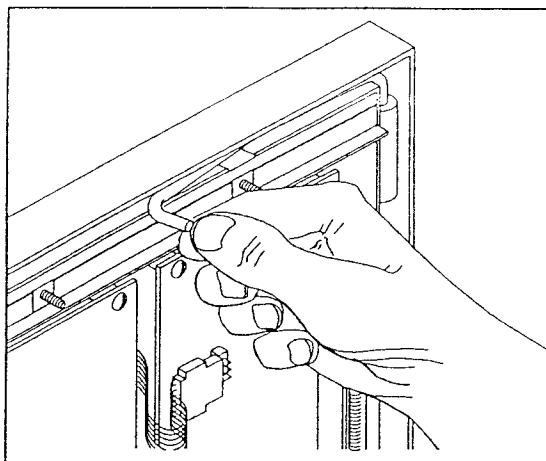
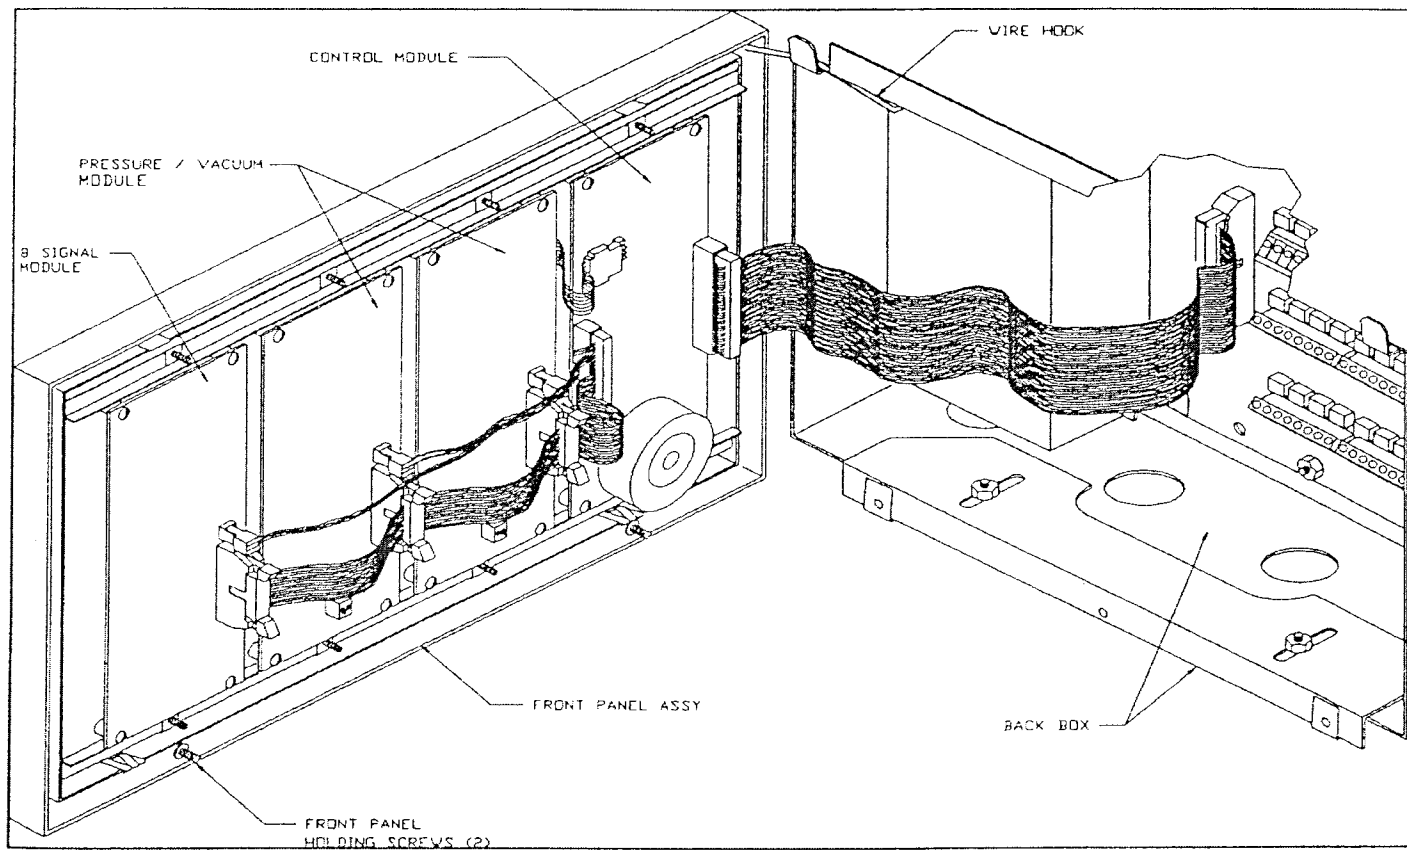

Figure 17 – Wire Hook
Figure 18 - Front Panel Installation
- 4.2.11 Installing the Front Panel (See Figure 18):**
- 4.2.11.5 Pull the Wire Hook out from the frame (see Figure 17) and hang the Front Panel on it (see Figure 18).
4.2.11.6 Plug the ribbon cable from the Control Module into the connector on the Mother Board (see Figure 18). Replace the primary fuse.
- 5.1.0 Hang the Front Panel on the Wire Hook provided (see Figure 17). Install ribbon cable per Installation Instructions and turn Power Switch on.